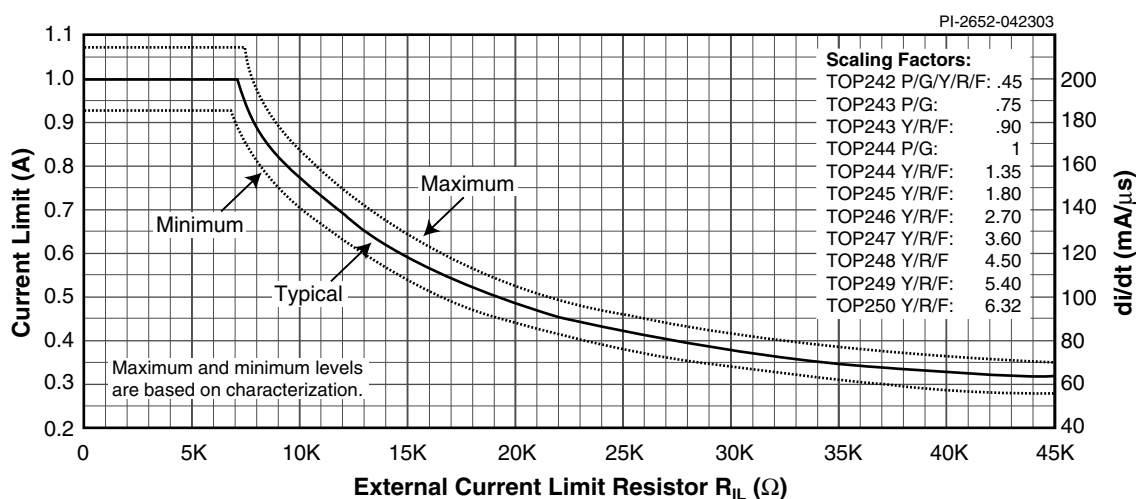

Figure 54b. Current Limit vs. External Current Limit Resistance (see Figures 55b and 56b for TOP245P and TOP246P).
- C. For externally adjusted current limit values, please refer to Figures 54b, 55b and 56b (Current Limit vs. External Current Limit Resistance) in the Typical Performance Characteristics section. The tolerance specified is only valid at full current limit.